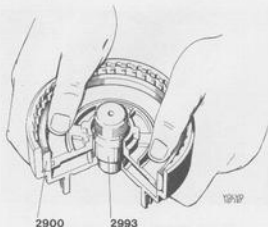

Fig. 4-122. Fitting piston for front clutch
16. Place the guide 2993 in the clutch housing (drum). Fit the sealing ring on the piston and a new O-ring in the drum. Place the piston in the fitting ring 2900. Press it down until it is level with the lower edge of the ring. Place the piston over the guide in the clutch housing according to Fig. 4-122. Hold the housing in your hands and push down the piston with the thumbs. Remove the tool. Fit the spring with the dished side facing rear. Fit the snap ring.